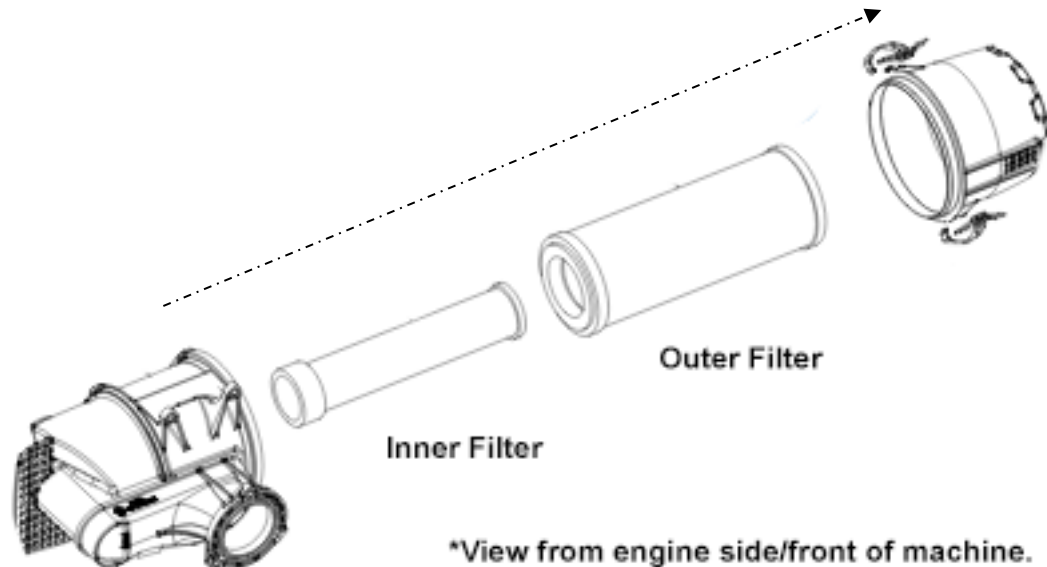

Fig 22
1. **(Fig 22)** The machine has two cylindrical air filters, one inside the other. Remove the back panel of the machine using the four thumb screws. On the left side of the engine remove the air filter cover. Due to space constraints you must remove both air filters at the same time, outer and inner. Grab the large outer most air filter and gently wiggle up and down while slowly pulling it to the left side of the machine. This motion should also loosen the inner most air filter. Reverse the instructions to insert a new filters.